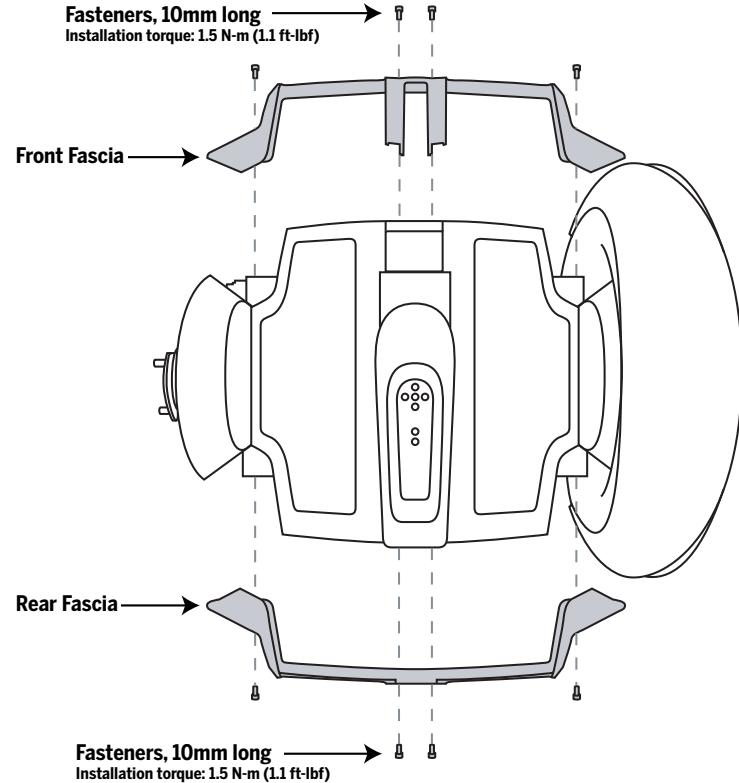

Figure 3. Removing or Installing the Fascia
7. With the Wheel and Fender off, remove the (4) fasteners from the Fascia with a 4mm hex wrench. See Figure 3.
9. To replace the Fascia, loosely thread the (4) 10mm long fasteners (included with this kit) into the fascia. Using a 4mm hex wrench torque to 1.5 N·m (1.1 ft-lbf). See Figure 3.